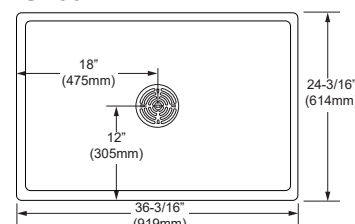

Figure 1
1. Refer to "Rough-In dimensions (See Figure 1) and determine location of Mop Basin.